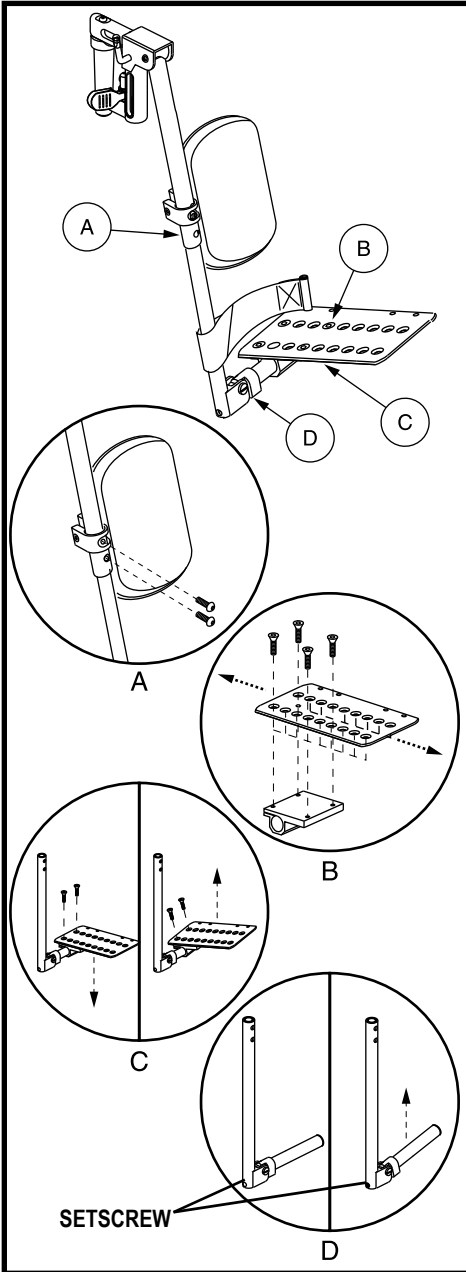

Figure 9. Multi-axis Foot Plate for ELR
Multi-axis foot plates can be installed on a standard elevating leg rest (ELR) or a swing-away footrest. The multi-axis foot plates have four adjustments: leg rest length (A), position (B), tilt (C), and angle (D). See figures 9 and 10.